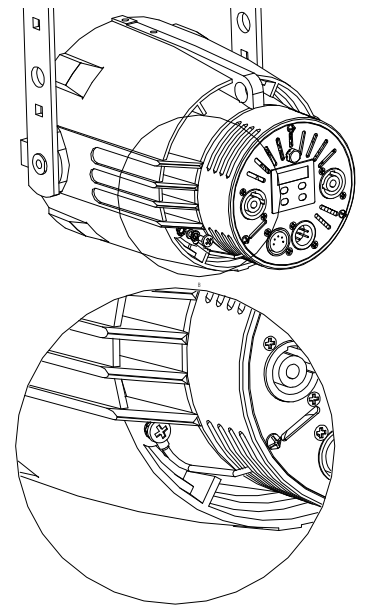

Fig.6
11. The lock washer and the M4 screw used for holding the eyelet-cord to ground the fixture as expressed in point 3, must be now used to secure the new provided eyelet-cord to ground/earth the fixture as shown in fig.6